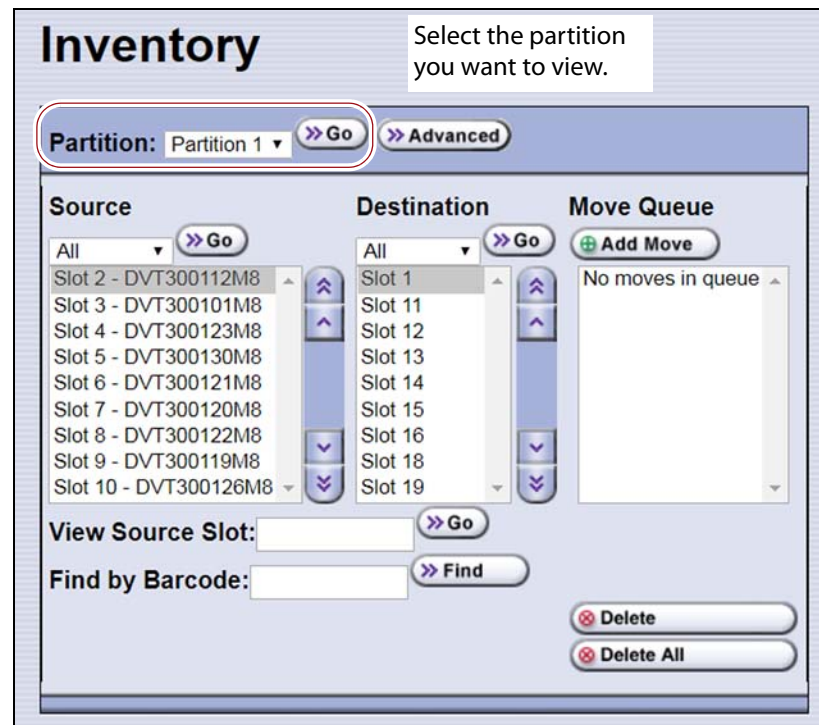

Figure 118 The Inventory screen.
4. If you want to download the inventory for a partition other than the one currently displayed, select the desired partition from the **Partition** drop-down list, then click **Go** (see Figure 118 on page 225).